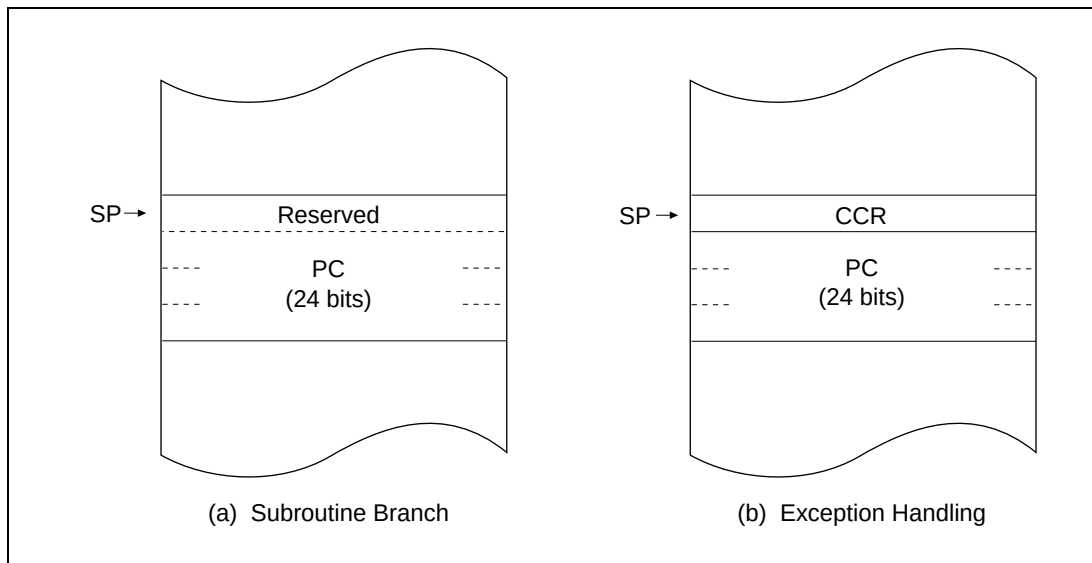

**Figure 2.5 Stack Structure in Advanced Mode**
In advanced mode, when the program counter (PC) is pushed onto the stack in a subroutine call, and the PC and condition-code register (CCR) are pushed onto the stack in exception handling, they are stored as shown in figure 2.5. The extended control register (EXR) is not pushed onto the stack. For details, see section 5, Exception Handling.